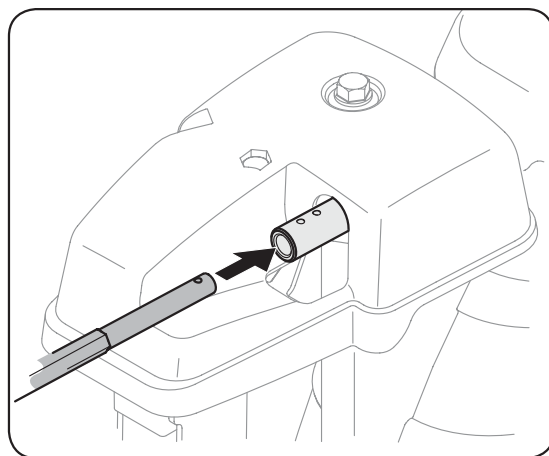

Figure 3-3
2. Insert round end of the hex rod (hole pointing upward) as far as possible into chute control assembly. See Figure 3-3.